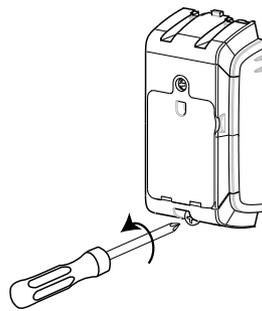

Figure 5: Unscrewing device
2. Unscrew the lower screw from the device cover. See Figure 5.